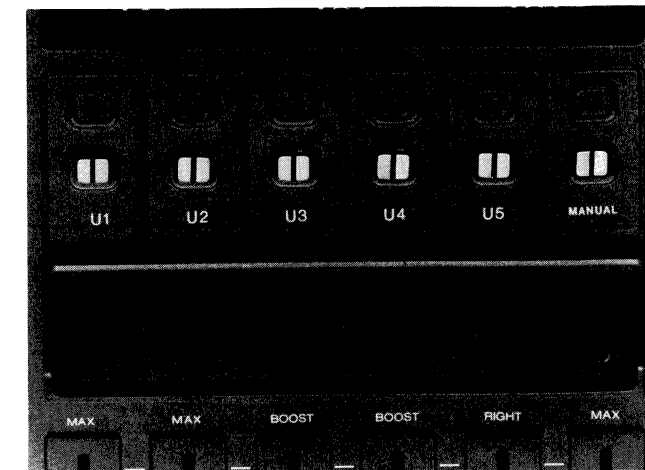

Figure 20
- The reason why the U1 (LED411) can light up when the power switch (SW5) is turned ON. (Refer to Figures 20 and 21).